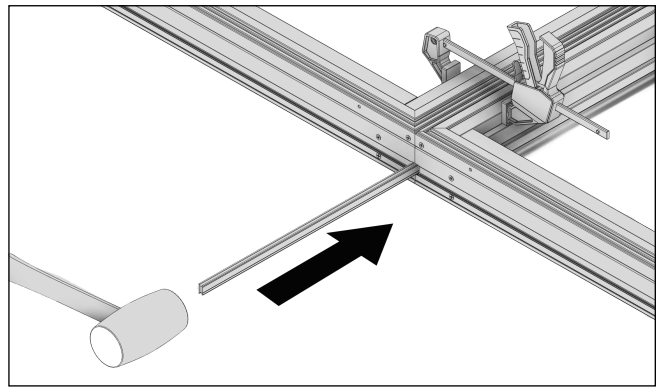

Figure 34 Insert mull pin
- Once the pin is roughly in place, lightly tap it with a mallet to drive it further in. Don't use excessive force here. See Figure 34.